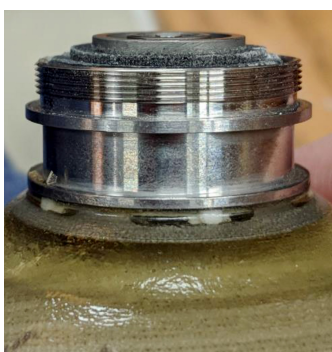

Figure 10
5. You should feel a click when the Module is completely seated in the housing (Figure 10). The edge of the Module should be flush with the Module housing. If the edge of the Module is not flush with the housing, the Module is not yet completely inserted.